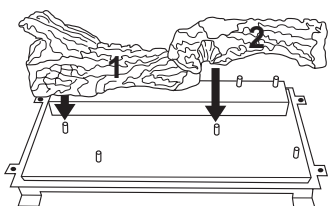

Figure 39 - Installing Logs No. 1 and No. 2
1. Place log #1 (left base log) onto pin on left side of burner as shown in Figure 39.
2. Place log #2 (right base log) onto pin on right side of burner as shown in Figure 39.